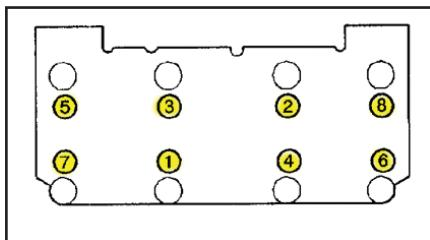

Figure 1 Follow this order to torque GM 3.1L and 3.4L heads to their proper specifications.
- Tighten the cylinder head bolts to 44 ft.lbs. (60 N-m) in the order shown in **Figure 1**. Use a torque angle meter (p/n J 36660-A or equivalent) in order to rotate the cylinder head bolts an additional 95 degrees.